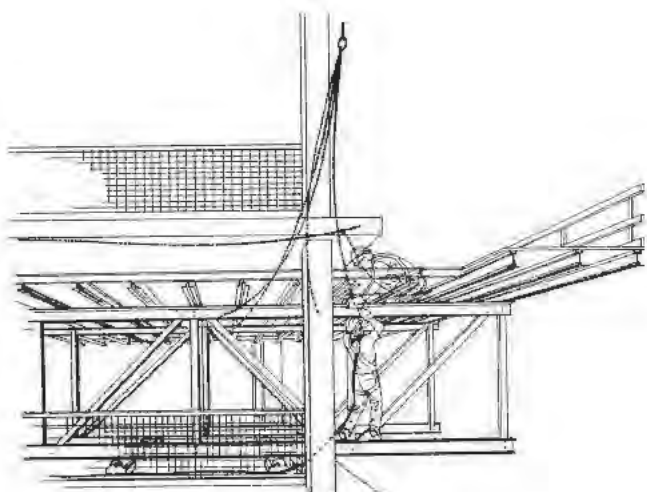

Figure 212 — Helping Worker Above
- helping other workers attach rigging hardware such as slings (Figure 212)